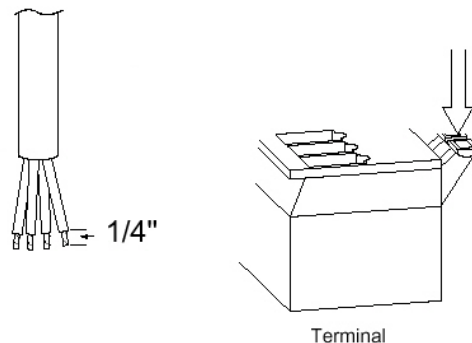
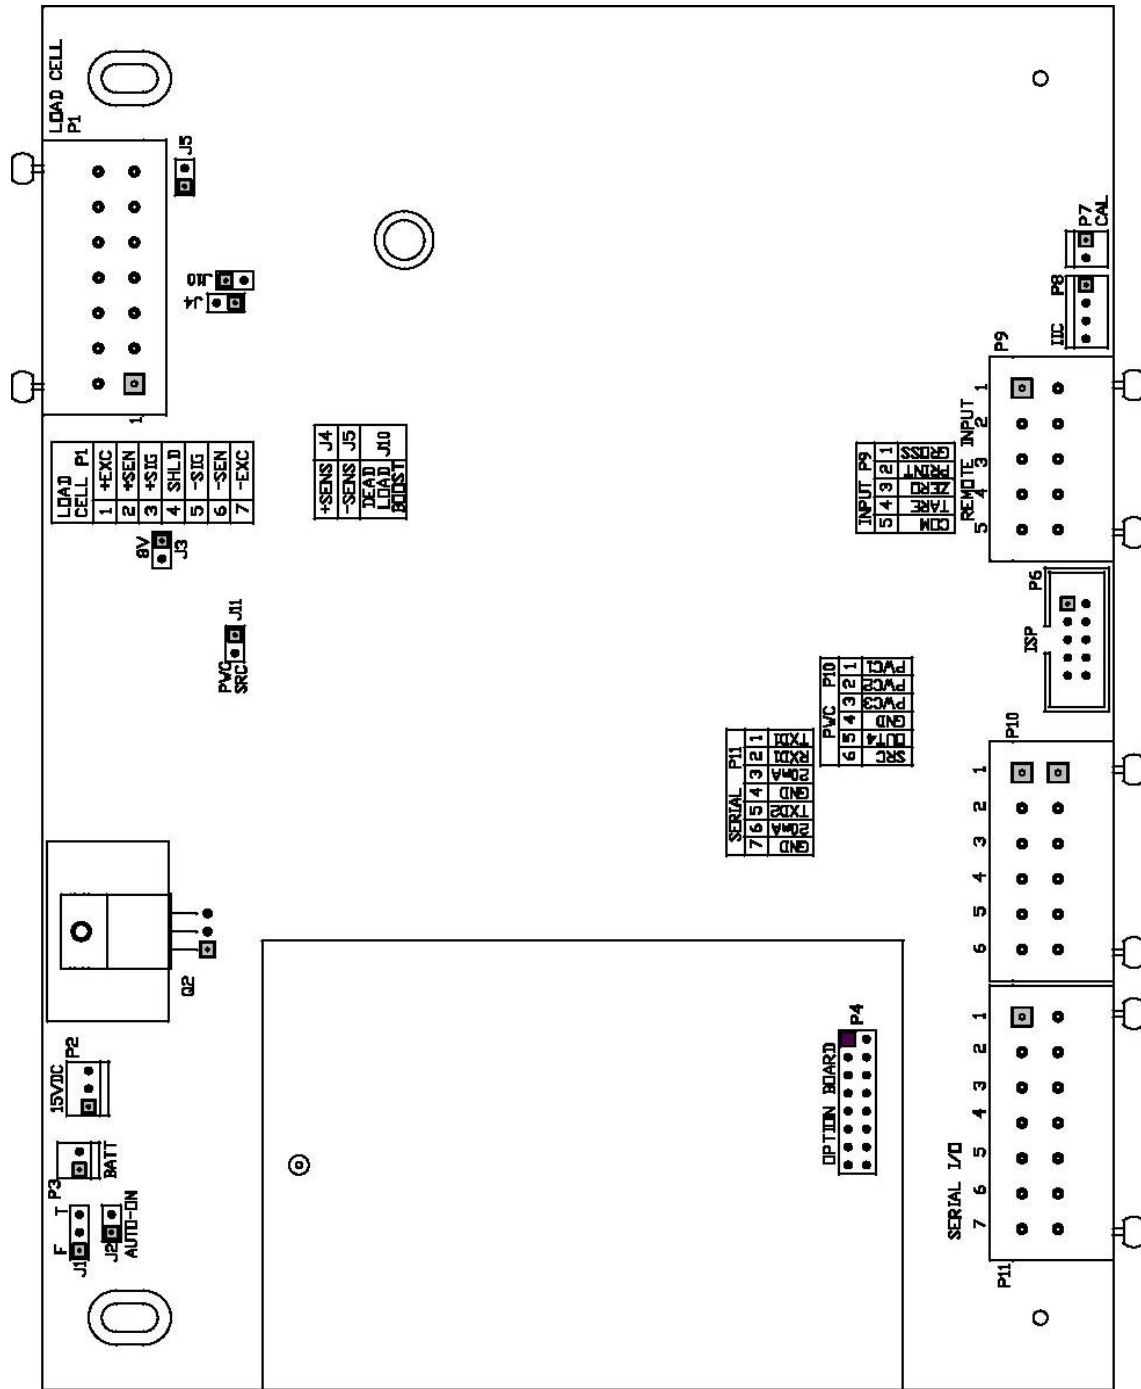

Figure No. 4
Figure No. 8
7. Remove 1/4" of insulation from the end of each of the 4 wires (without sense leads) or 6 wires with sense leads (refer to figure No. 4).
8. Connect each of the wires to terminal block P1 referring to labels on circuit board for terminal connections. Refer to Figure No. 8 for terminal block location.
NOTE! If the sense leads are NOT used, you must install plug-in jumpers at J4 and J5 adjacent to the terminal block. These jumpers attach the sense leads to the excitation leads. If sense leads ARE used (as in motor truck scales), these plug-in jumpers should be positioned on one plug-in pin only or removed and stored for later use (see Figure No. 8).
4. Remove 3" of the outer insulation jacket then remove 1/4" of insulation from each of the 4 wires and shield (without sense leads) or 6 wires and shield (with sense leads). Refer to Figure No. 4.
5. Connect each of the wires to terminal block P1 referring to labels on circuit board for terminal connections. Refer to Figure No. 8 for terminal block location.
3. Remove 2" of the outer insulation jacket then remove 1/4" of insulation from each of the wires (refer to Figure No. 4).
4. Connect each of the wires to the Serial Data terminal block (P11) referring to Figure No. 8 for terminal block locations.
Included with the I/O are 4 programmable inputs that may be used to remotely (up to 100 feet) initiate various functions within the indicator. These inputs are accessed via a terminal block (P9) on the back of the PC board (see Figure No. 8). The 4 inputs are defined as follows:
The Active Remote Out jumper J11, when connected, allows the 210/215 indicator to supply (source) 12 VDC to a solid-state relay or other load of 200 ohms or greater. To operate from the 12 VDC source, the positive connection from the relays must be connected to the PWC connector pins and the negative wire from the relays to the GND pin. See Figure No. 8 for jumper and REMOTE OUTPUT connector location.
To connect the control cable to the preset weight comparator/checkweigher logic level output connector P10, first loosen the gland connector located on the right side on the back of the 210/215. Refer to Figure No. 8 for the exact location of the connector. Slip the cable through the connector and into the enclosure. Remove 2 inches of the cable insulating jacket and then 1/4 inch of insulation from each of the internal wires (refer to Figure No. 4). Make the proper terminations on terminal block P10. To terminate a wire, first press down on the terminal block release bar, insert the wire into the terminal and remove pressure from the release bar locking the wire in place.